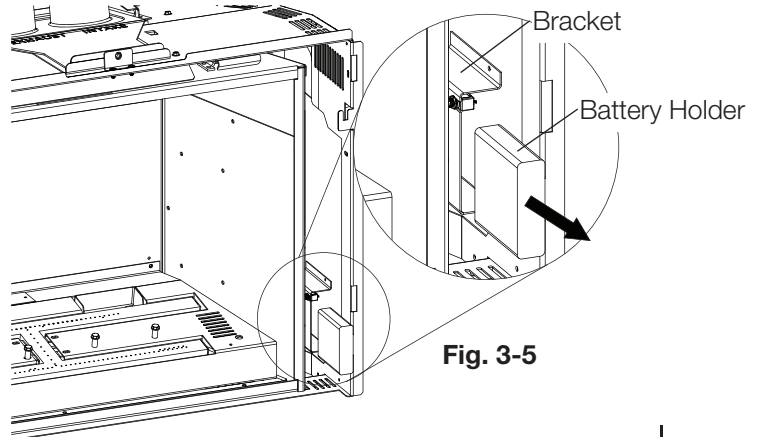

Fig. 3-5
1. Remove battery holder by sliding it forward from the bracket (**Fig. 3-5**).